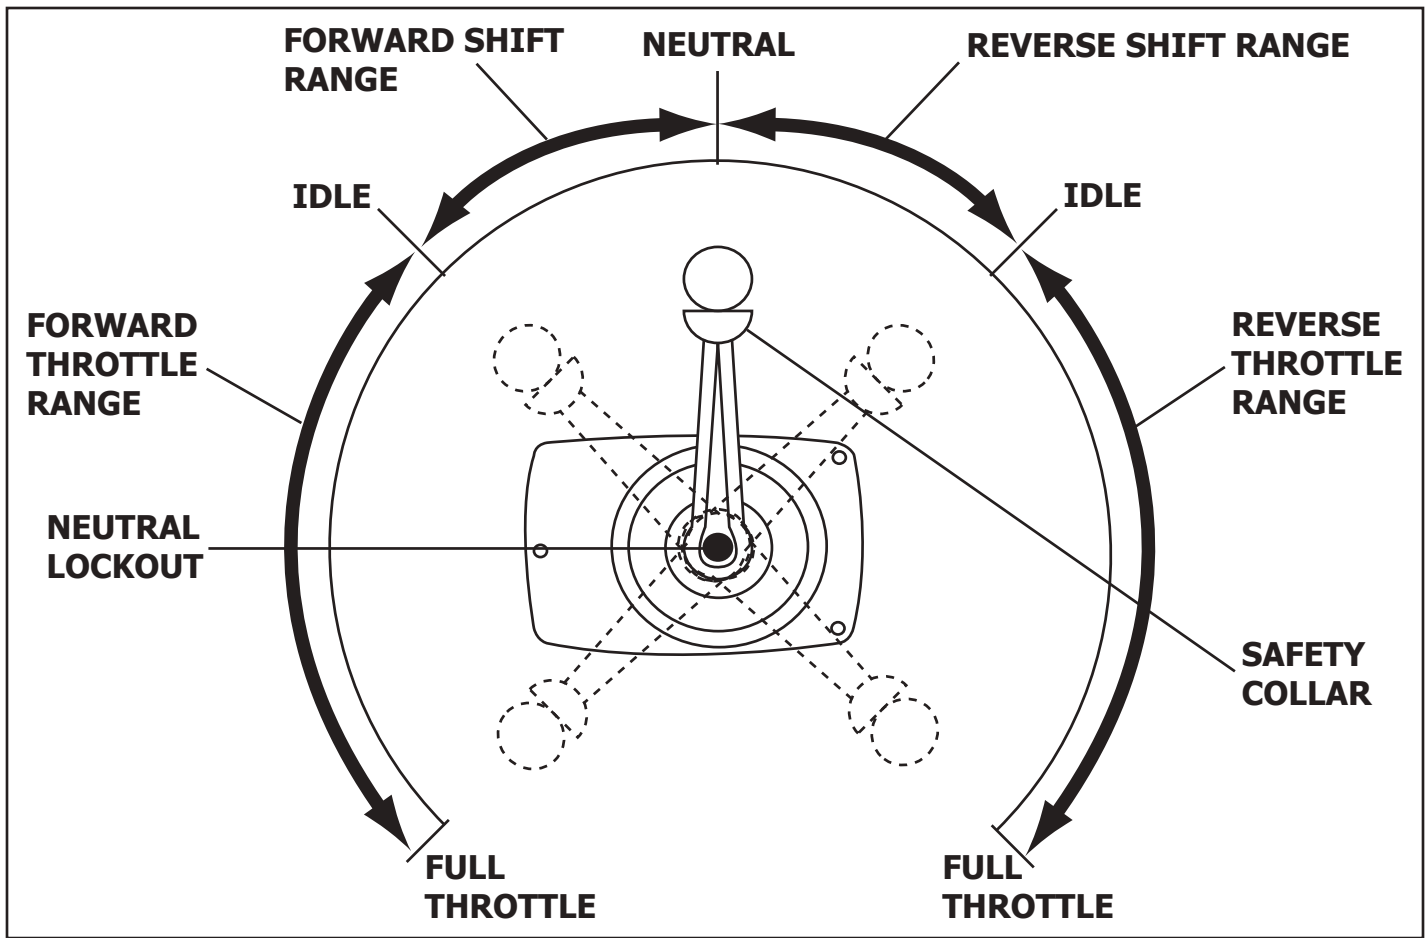

Figure 5-2 Typical Throttle / Shift Position Settings
5. Do not pump or open the throttle when starting the engine (Figure 5-2). The ECM will automatically regulate the fuel and control desired idle speed.
7. **In the event the engine becomes flooded,** ensure the Neutral Lockout is engaged and move the throttle lever to a 100% open position (Figure 5-2). At this throttle position, the ECM will command the injectors to deliver no fuel during engine cranking. When the engine starts, return the throttle lever back to the idle position.